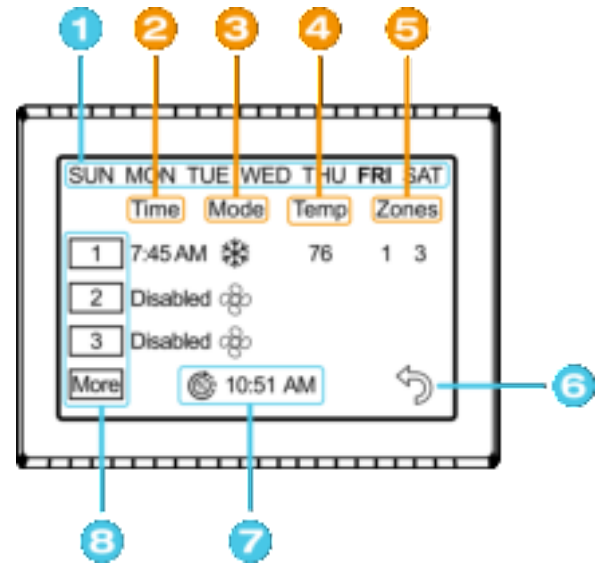
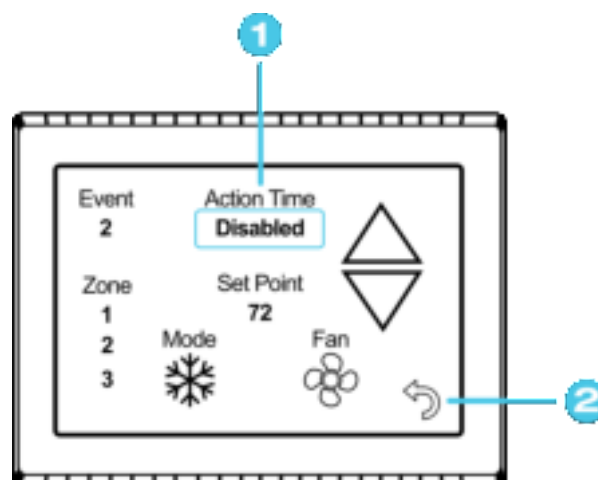
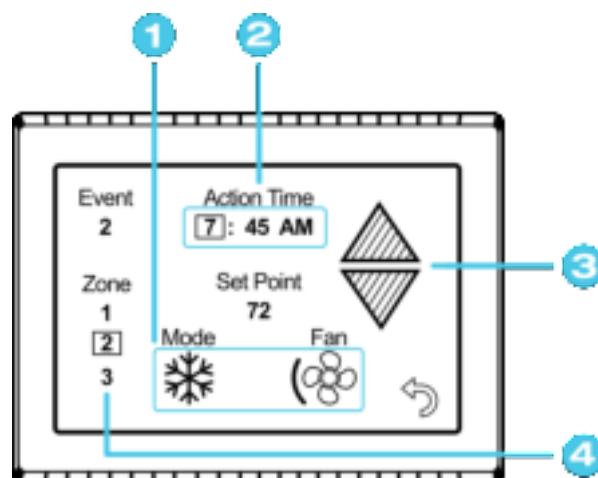

Figure 3 - Main Schedule Screen
Figure 4 - Schedule Edit Screen (Disabled Event)
Figure 5 - Schedule Edit Screen (Enabled Event)
The schedule supports 7 day per week scheduling of events. Events can include changes to the set point or mode of operation for one or more zones. Each numbered row is an event that can be configured. *Figure 3* shows the main schedule screen. Tap the “Schedule” button from the *Settings Screens* to enter.
Events are numbered 1 to 6 along the left side of the screen. Each row is a numbered event. Tap an event to edit it and advance to the schedule edit screen, shown in Figure 4. Tap “More” to see events 4, 5, and 6.
*Figure 4* shows the edit screen when an event is tapped as shown in *(8) Scheduled Events* of *Figure 3 - Main Schedule Screen*. The event time on the main schedule screen and Action Time in the edit schedule screen will show disabled until a time is set. Tap “Disabled” (1) at the top of the screen to show a gray box around the Action Time to select it. The up and down arrows change to full color once a selection is made. Use the arrows to make a change to what is selected. Use the back arrow (2) to save any changes and leave the screen.
*Figure 5* shows the schedule edit screen once a valid time is set for the event.
4. **Zoned systems only:** Tap the zone number to enable/disable the zone you want this event to affect. A green box will draw around zones the event is enabled for. Events for Single zone EasyTouch RV models will always be enabled when the Action Time (2) is set.
1. Tap the edit schedule button as described in the *Schedule – Edit, Enable or Disable* section in settings to enter the main schedule screen, shown by *Figure 3*.
2. Ensure that a valid *(7) System Time* is shown. Tap the day you want to set up a schedule for, then the event you want to edit, all shown by *Figure 3*. Tapping the event will take you to the edit schedule screen, shown by *Figure 4* and *Figure 5*.
5. Tap the back button once again to return to the settings screen. Activate the schedule by pressing the schedule button with the “Enabled/Disabled” subtext as described in the *Schedule – Edit, Enable or Disable* section in settings. When enabled, it may also be noted on the *(11) Info Screen*, under the *Main Screen*.